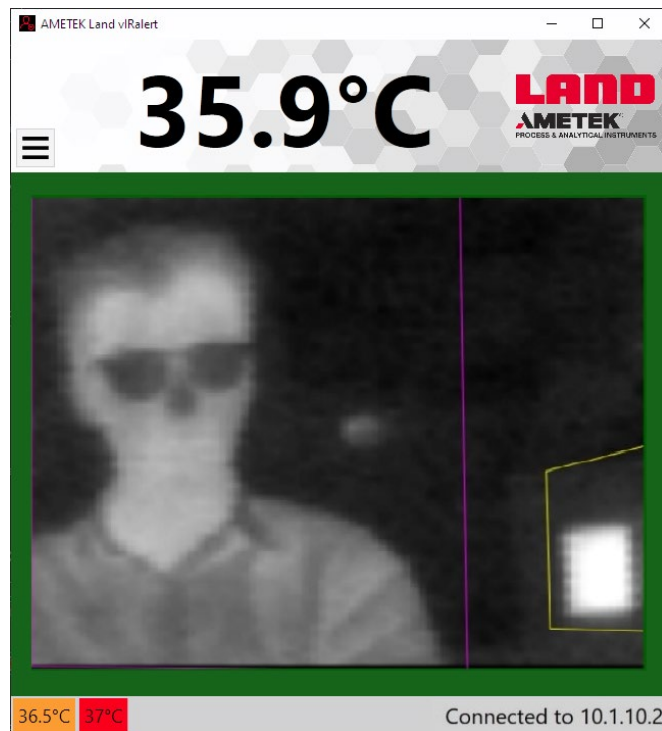
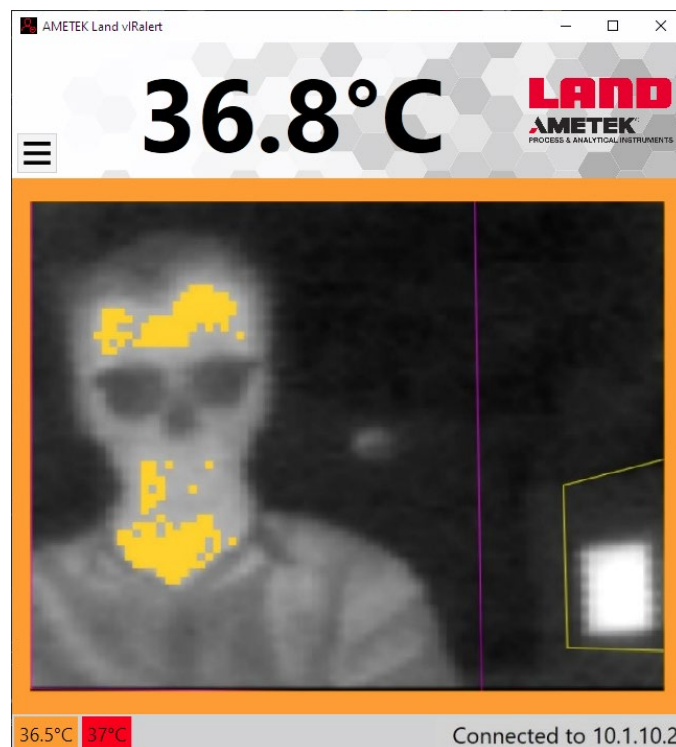
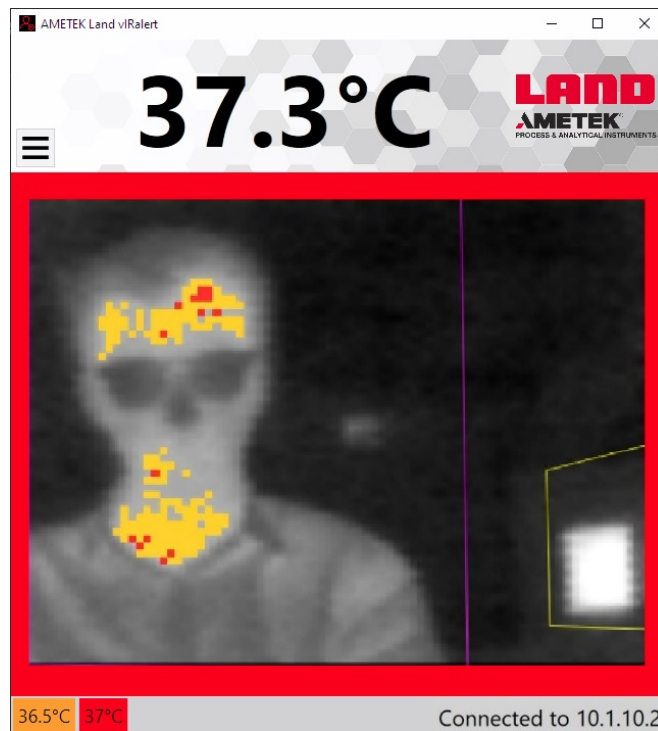

Fig. 5-2 Typical viRalert Display of Normal Body Temperature
Fig. 5-3 Typical viRalert Display of Subject with Elevated Body Temperature Triggering a Warning
Fig. 5-4 Typical viRalert Display of Subject with Elevated Body Temperature Triggering an Alarm
5. Observe the viRalert software display on the PC/Laptop. If the subject is at normal body temperature, the display will be similar to that shown in Fig. 5-2 otherwise the system will present a warning shown in Fig 5-3 or alarm shown in Fig 5-4.
If the subject does not have elevated skin temperature the operator will see a similar display to that shown in Fig. 5-2.
If the subject is at an elevated skin temperature which is above the alarm level, the operator will see a similar display to that shown in Fig. 5-4 and an audible alarm will be generated.